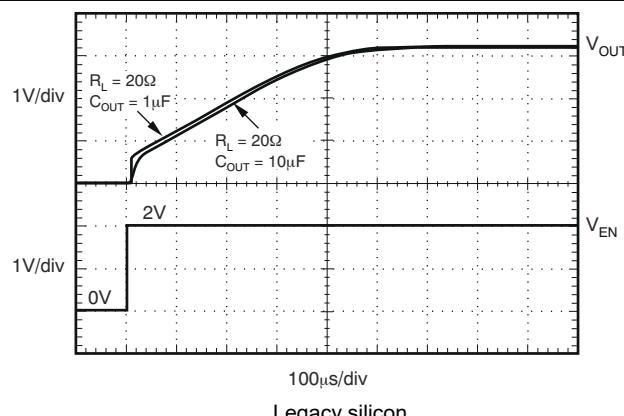

图 5-39. TPS73701 Turn-On Response
The enable pin (EN) is active high and compatible with standard TTL-CMOS levels.  $V_{EN}$  below 0.5 V (maximum) turns the regulator off and drops the GND pin current to approximately 10 nA. When EN is used to shutdown the regulator, all charge is removed from the pass transistor gate. A  $V_{IN}$  above 1.7 V (minimum) turns the regulator on and the output ramps back up to a regulated  $V_{OUT}$  (see 图 5-39).